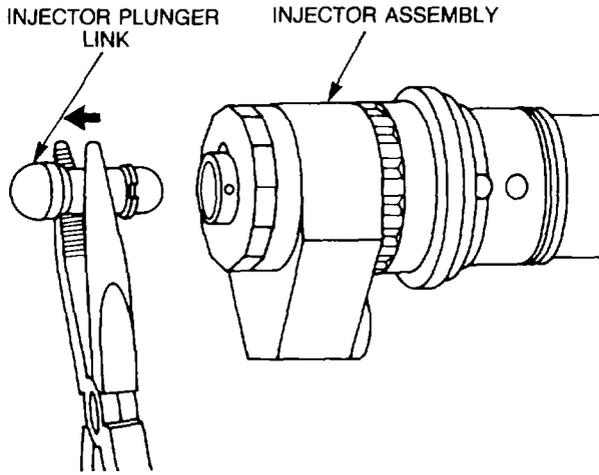

Figure 75 — Injector Plunger Link — Removal
d. Using a pair of needle nose pliers remove the injector plunger link (see Fig. 75) from the injector assembly.